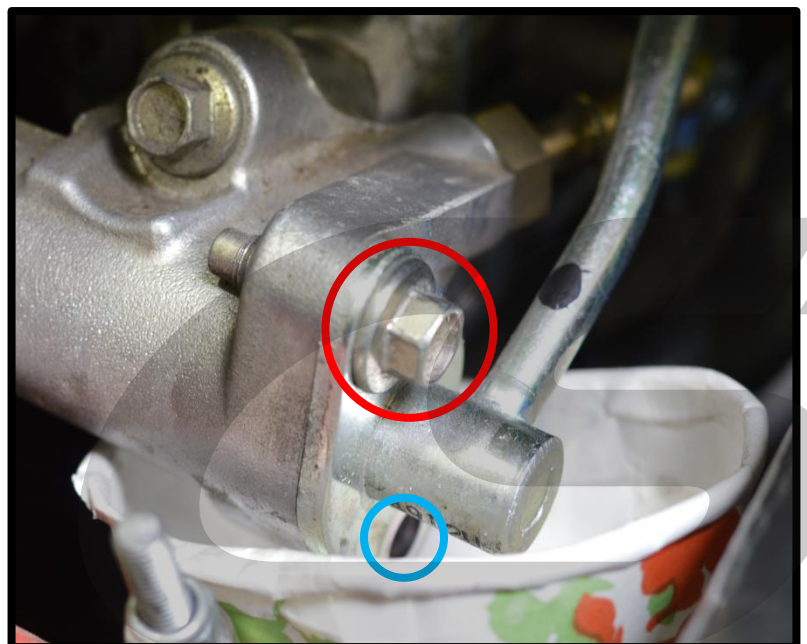

Figure 6f
- d) Remove the lower 10mm bolt from the HP fuel line cap location (shown circled in blue in Figure 6f). Remove the upper 10mm bolt (shown circled in red in Figure 6f). Begin pulling the HP fuel line out of the fuel rail slowly. If needed, use a flathead screwdriver to leverage the fuel line out of the rail. Remove the line from the car.